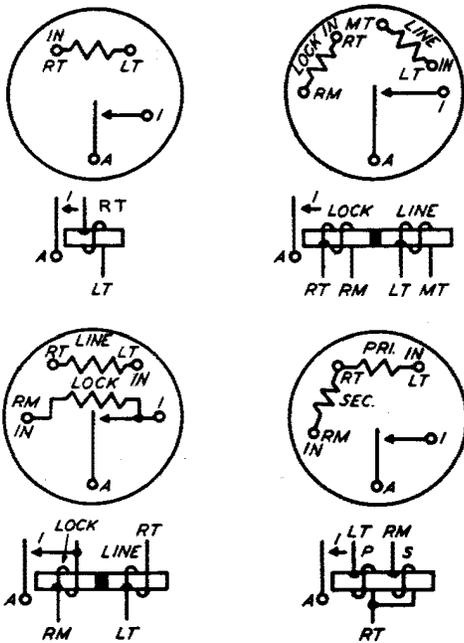

Fig. 27 - Winding and Spring Terminal Arrangement as Viewed From the Rear (terminal side) — 89-, 101-, 105-, 108-, 118-, and 172-Type Relays
2.41 The winding and contact terminal numbering is the same as covered in 2.37. These relays are, however, always mounted as shown in Fig. 27 through 30.